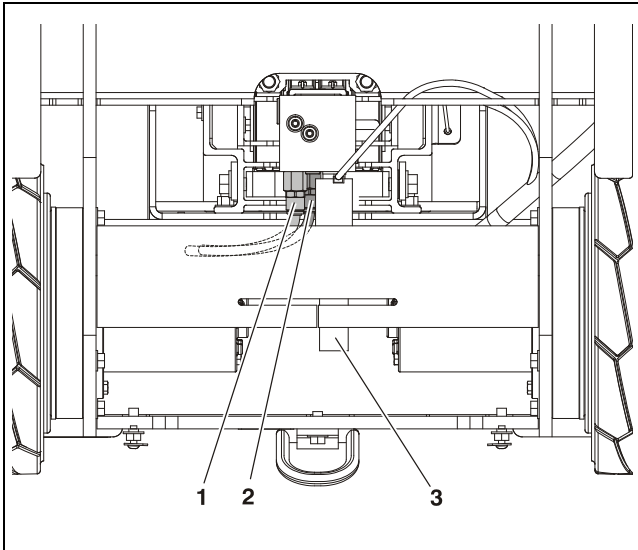

**Figure 5-3. Machine Positioned for Cylinder Removal.**
3. Use a forklift truck or overhead crane and carefully lay the machine on it's back, place a support under the mast end, keeping mast close to level. (See Figure 5-3.)